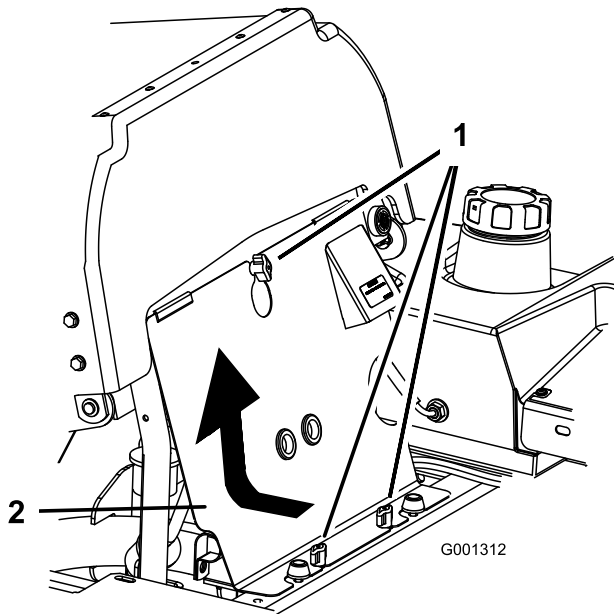

Figure 67
3. Loosen the front engine panel knobs and remove the panel (Figure 67).